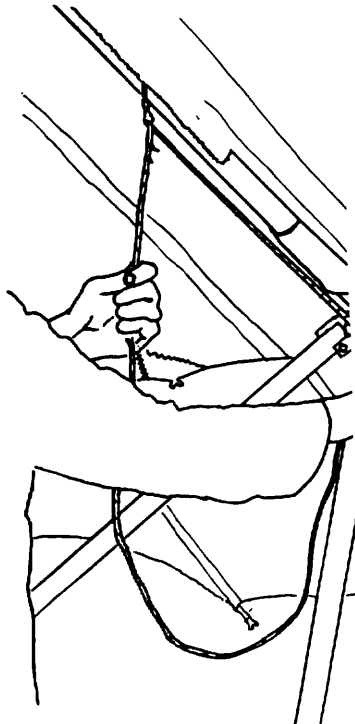
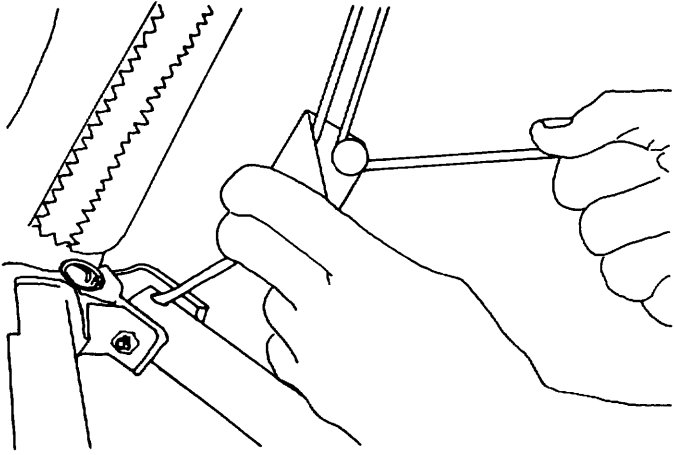

Fig 21
Fig 22
13) Remove the wingnut and safety from the bolt which is secured to the crossbar sweep wires. (The wires attached to the crossbar center.) Insert the free end of the piece of leech line which is attached to the control bar top through the thimble in the shortest of the two wires which make up the left (on your right as you face the rear of the glider) crossbar sweep wire. (Fig 21) Then pass the end of the leech line around the post on the black plastic loop cleat that is secured to the line near the top of the control bar leg. (fig 22)